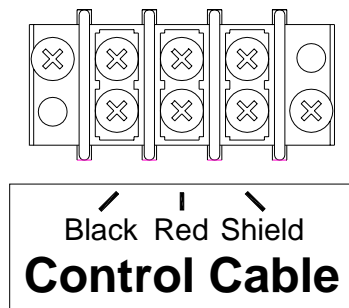

Figure 11 Control Cable Wiring Diagram
3. Connect the control cable to the **Control Cable** terminal block on the junction chassis according to figure 11.